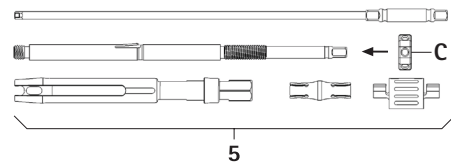

Fig. 10
- ▶ Screw lock nut C onto inner sleeve, see Fig. 10.